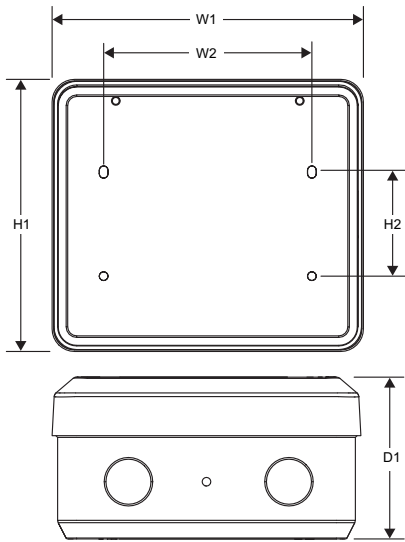

**Figure 3-1. Knockouts and UP Arrows**
3. See Figure 3-1. Use a flat head screwdriver to remove appropriate knockouts (A) from module enclosure for wiring.